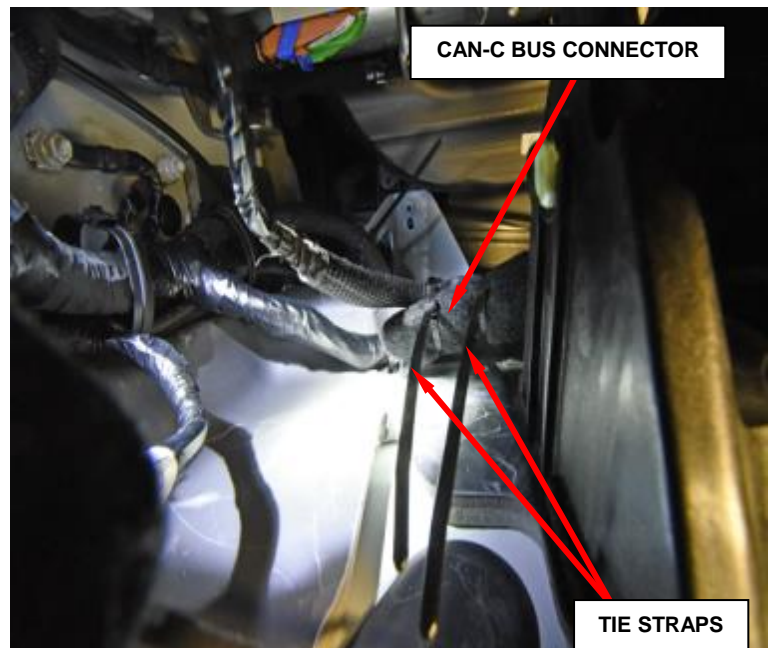

Figure 10 – CAN-C Harness to Body Harness
8. Fold the CAN-C Bus Connector back on itself and tie strap it to the harness as shown (Figure 10).